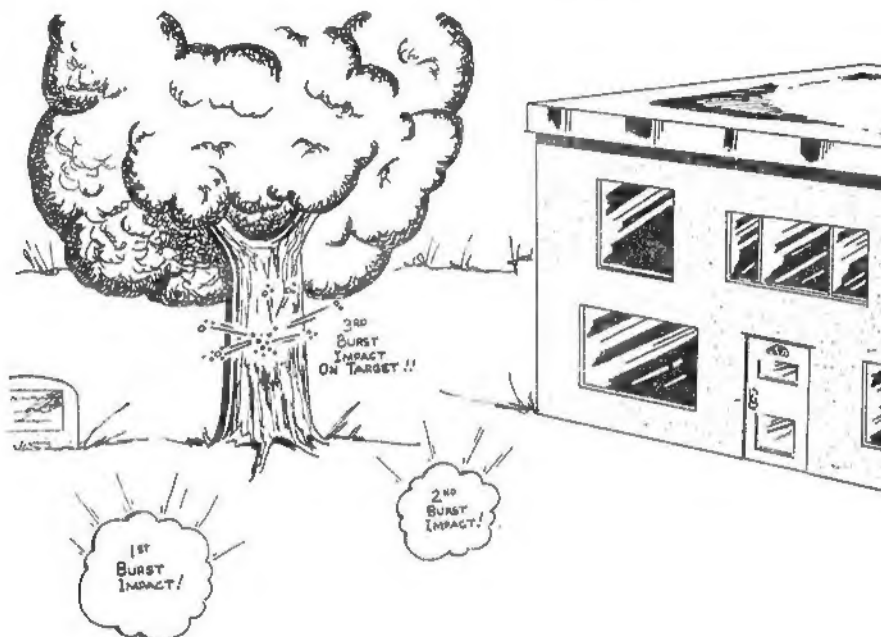

Figure 2-3. — Fire and Adjust.
**2. Fire and Adjust.** The rear sight is lowered, and the gunner fires a burst. Chances are, it will not hit the target — in our example it did not. The team leader spots the gunner's burst and directs the gunner to make adjustments with the T&E and fire again until the target is hit (Figure 2-3).